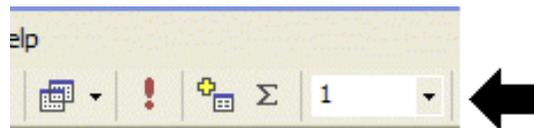

Figure 260. Set Top Values List to “1”.
- You want only one set of records, so set the **Top Values** droplist to “1” as shown in Fig. 260.